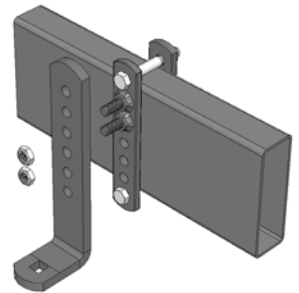

Figure 10
Slide the L-brackets onto the link plate studs with the spring arm plate facing away from the trailer. For the initial setup, leave two (2) holes showing at the top above the studs and two (2) below. See *Figure 10*. They may need to be adjusted up or down later. Thread on the nylock nuts and tighten them - see *Figure 10*. When weight distribution setup is complete, torque the L-bracket nuts to 75 ft-lbs.